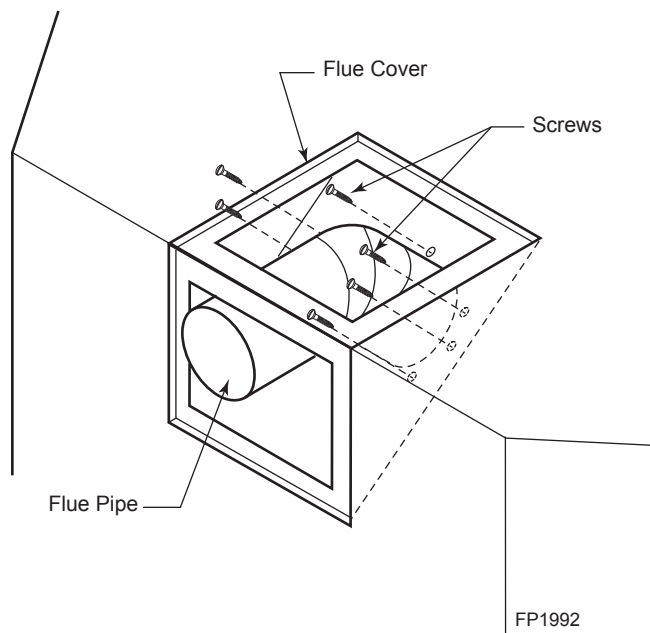

Figure 8 - Remove Flue Pipe
4. Remove six (6) screws securing the flue pipe to the back of the intake box and remove the pipe and gasket. *Figure 8*